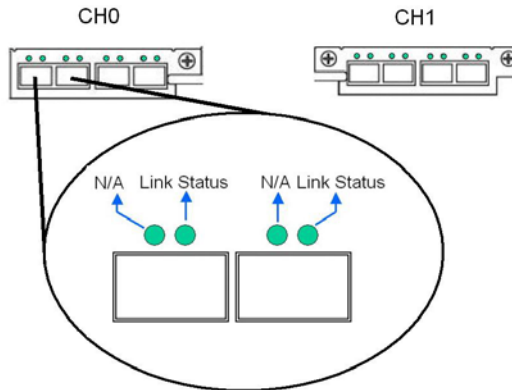

Figure 3-8: LEDs on FC Ports (SFP Cages)
Each FC port on the host I/O modules has two (2) green LEDs. The LED on the left is left undefined while the LED on the right indicates Fibre Channel link status. (See *Figure 3-8*)